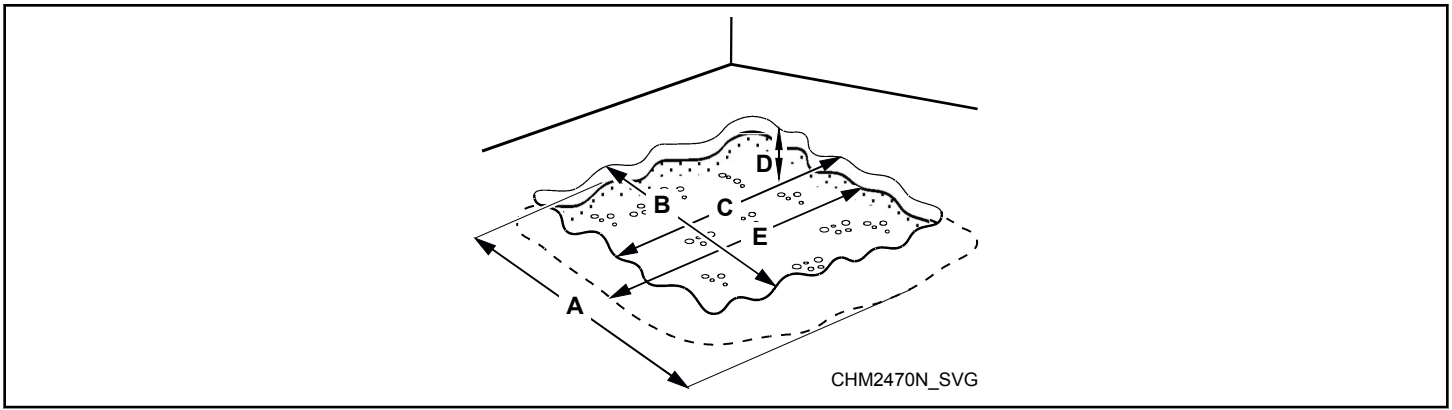

Figure 7
1. Cut a hole larger than the machine base through the existing floor, refer to *Figure 7*.